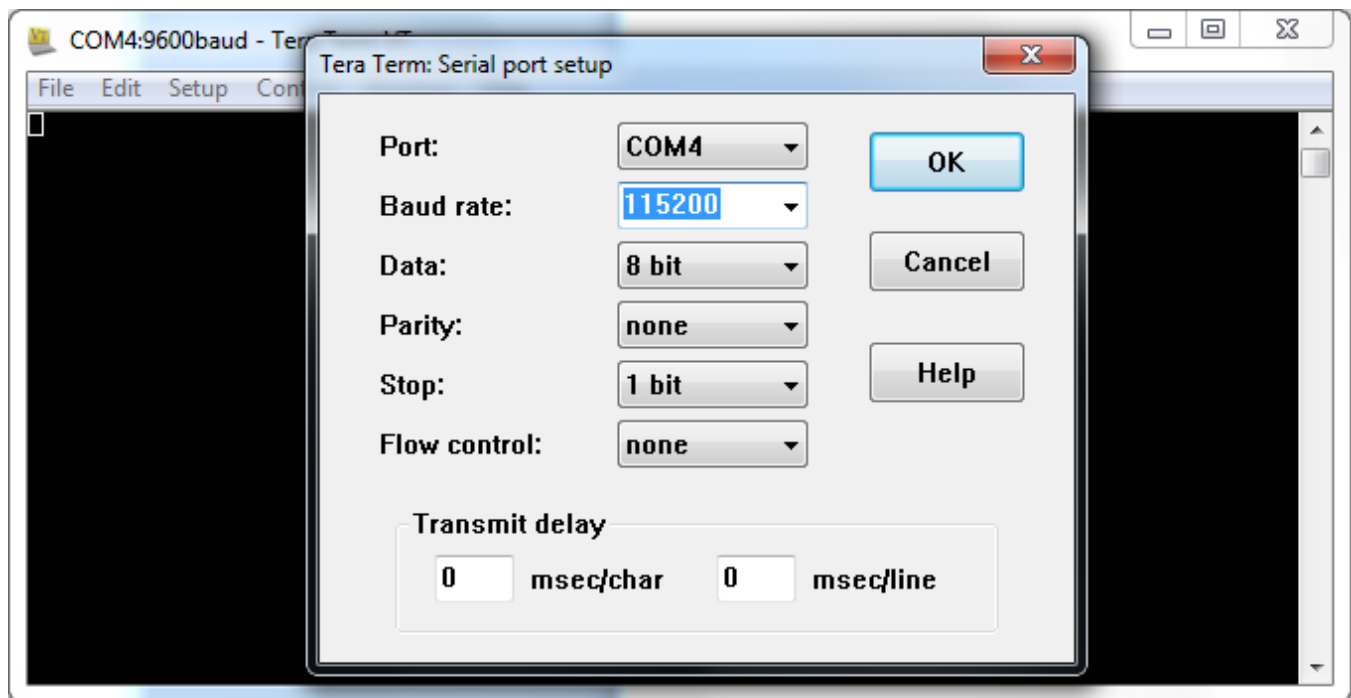

Figure 35. Tera Term Serial Port Setup
5. In the menu, select Setup>Serial Port, and change the baud rate to 115200 as shown in Figure 35.